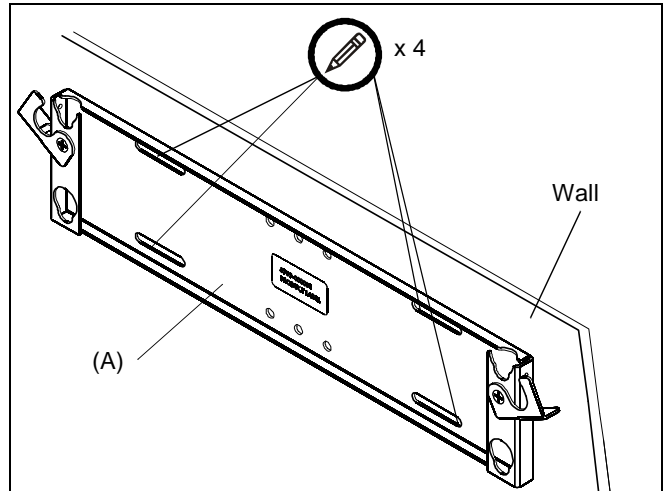

Figure 2
1. Locate and mark the four mounting holes on the drywall. (See Figure 2)